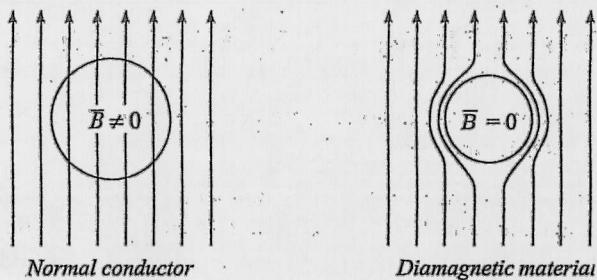

Fig. 19.2 Diamagnetic material—Magnetic field
- (1) They do not have a permanent dipole moment.
- (2) Magnetic effects are very weak and hence, often masked by other kind of magnetism.
- (3) They repel the magnetic lines of force. The existence of this behaviour in a diamagnetic material is shown in Fig. 19.2.